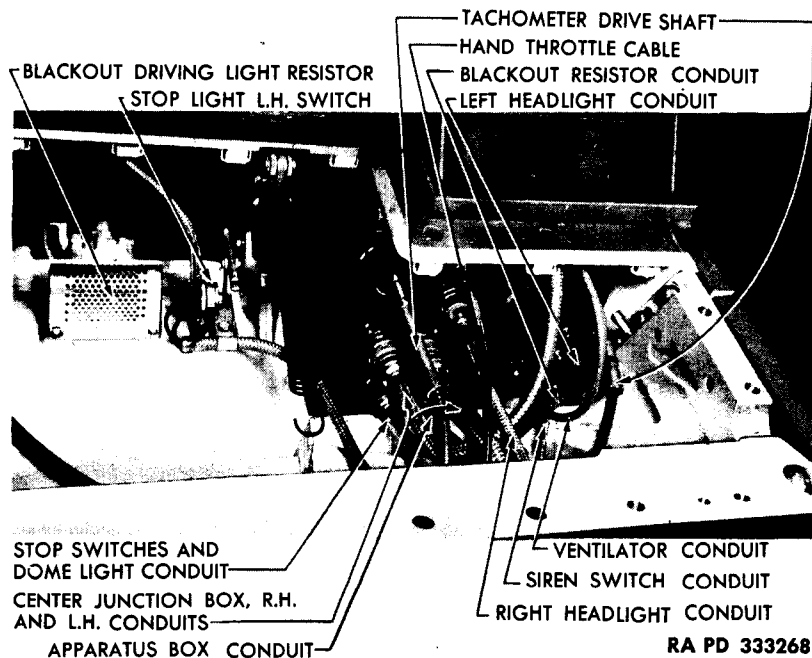

Figure 120 — Connections at Rear of Instrument Panel — First Type
(1) **ASSEMBLE PANEL AND CONNECT CONDUITS.** Position instrument panel on cover, and install five mounting screws and lock washers. Position instrument panel in fighting compartment, and connect electrical conduits, speedometer cable, and both tachometer cables to instrument panel (figs. 120 and 121). **NOTE: Connect left head lamp conduit to head lamp.** Position cables and two cable clamps against nose-armor casting and install two cable clamp mounting screws and lock washers.